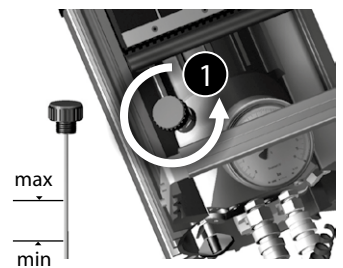

Fig. 6
Place the Hydraulic Power Unit horizontally on level ground. Remove dipstick (1) and clean it with a lint-free cloth. Screw the dipstick in again. After renewed unscrewing, check if the oil level is within the recommended range. Use the two markings max and min. If the oil level is within the range of max and min, the level is fine. If the level is below min, add oil (Fig. 6).